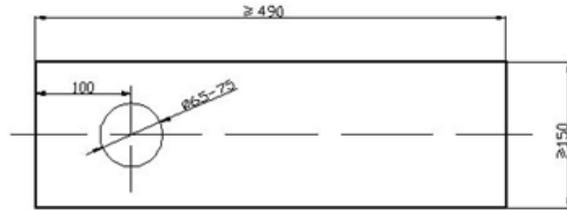

Fig 3
①The hardness tester shall be installed in a vibration free environment, horizontally placed on a stable worktable, and its levelness shall not exceed 1 mm/m, at the same time, a hole with a diameter of 65-75 mm shall be opened at the appropriate position of the worktable for the lifting of the lead screw (Fig 3)